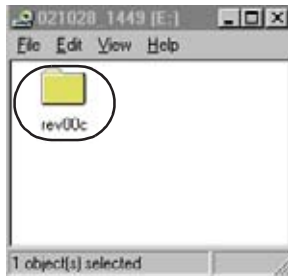

FIGURE 2
3. Click on CD disc drive icon to reveal folder similar to **rev00c** or **rev00f** or **newer** (see Figure 2).